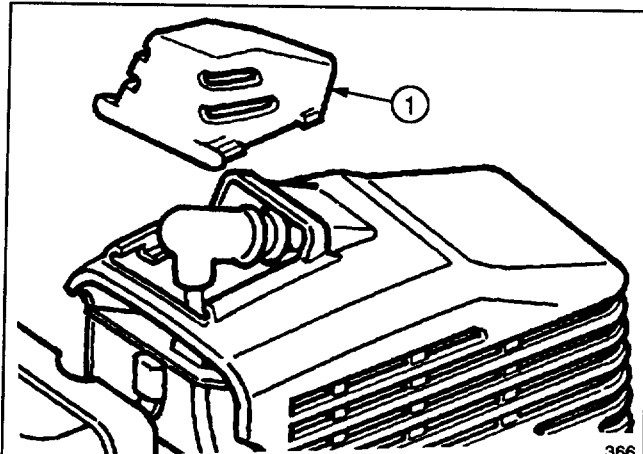

Figure 16
1. Stop engine. Remove spark plug cover by squeezing sides and slide off engine cover (Fig. 16). Pull wire off spark plug.